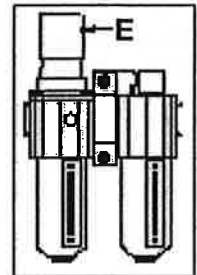

Figure 6
The adjustment knob (E) is factory-adjusted fully clockwise, so no oil is delivered to lubricate the system. To make initial adjustment, turn on the air and start flow to the system. Turn knob to adjust oil drip rate. Turning knob counter-clockwise increases drip rate. (see Fig. 6) Set the drip rate to one or two drops per minute initially and fine tune the rate after the system reaches its normal operating temperature.
(See figure 6.)